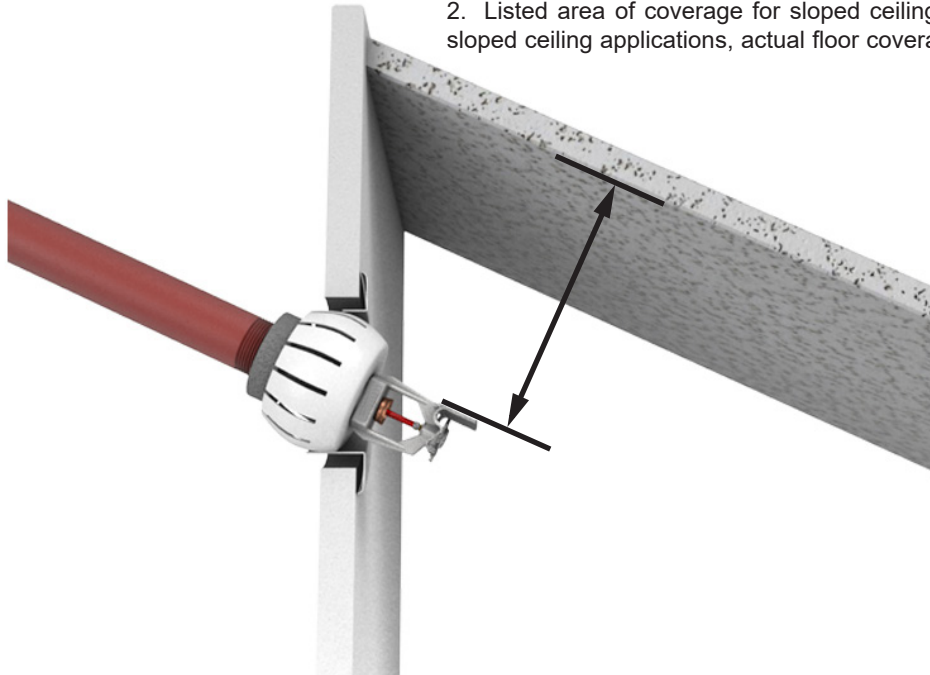

Figure 6: Model G-1 Recessed Escutcheon Installed with an EC HSW Sprinkler below a sloped ceiling.
Sprinkler VK609 (Base Part No. 13971) for Quick Response - QREC Specific Application - Maximum 175 PSI WWP For installation with the deflector located 4" to 6" (102 mm to 152 mm) below sloped ⁸ ceilings with slopes from 2/12 through 4/12 (9.5° to 18.4°) pitch. Sprinkler must be located at the high-point intersection of the wall and the ceiling with spray directed down the slope. Refer to Figure 6.
¹ Base part number is shown. For complete part number, refer to current Viking price list schedule. ² Metric K-factor shown is for use when pressure is measured in kPa. When pressure is measured in bar, multiply the metric K-factor by 10.0. ³ This chart shows listings and approvals available at time of printing. Check with the manufacturer for any additional approvals. ⁴ Listed by Underwriter's Laboratories, Inc. for use in Canada. ⁵ Meets New York City requirements, effective July 1, 2008. ⁶ Listings and Approvals are limited to Light Hazard Occupancies where allowed by the installation standards being applied. ⁷ For areas of coverage smaller than shown, use the "Minimum Water Supply Requirement" for the next larger listed area of coverage with sprinklers of similar K-Factor. ⁸ Listed area of coverage measured along ceiling slope. Consult Figure 6 for installation notes. ⁹ cULus Listed as corrosion resistant.
- In sloped ceiling installations, sprinkler VK609 is listed for installation at the high-point intersection of the wall and the ceiling. In sloped ceiling installations, the spray must be directed down the slope. Spray may NOT be directed across the slope. Refer to Figure 6.
- Refer to the Approval Chart for required deflector distance below the ceiling. Install with the leading edge of the deflector oriented parallel to the ceiling (see Figure 6).